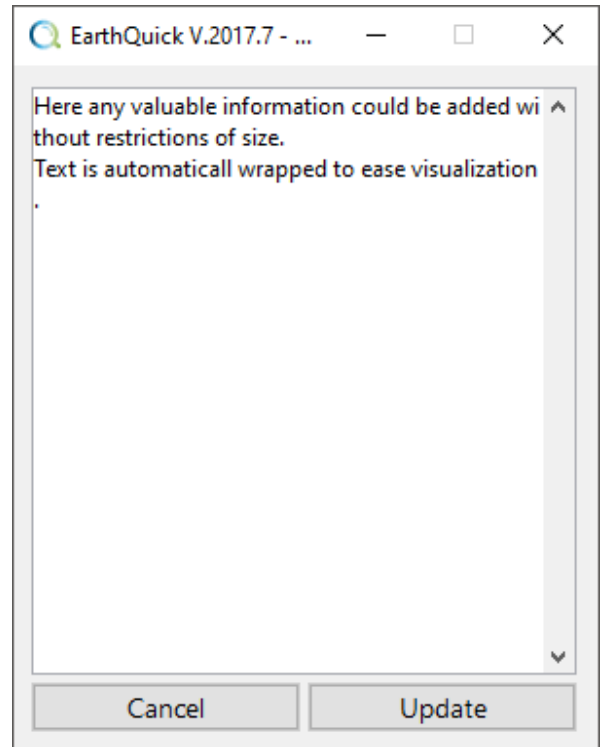

Figure 19: Management frame for notes.
(5) – **Notes facilities** to be able to leave key information on a project. See Figure 19 and comments aside.
- **ProjectNotes.xml** contains notes attached to a project without any restriction of text size (see Figure 19).